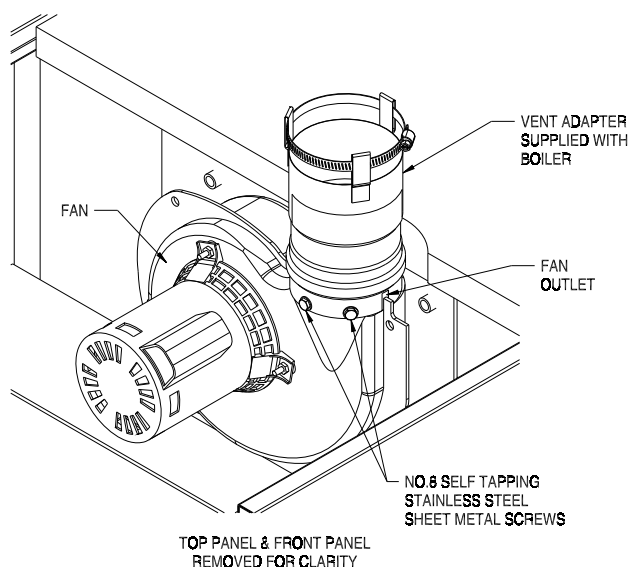

Figure 7-10: Installation of Vent Adapter
B. Vent Adapter Installation – The vent adapter is shipped loose. Mount the vent adapter to the fan outlet on the boiler as shown in Figure 7-10 using the two stainless steel screws provided.